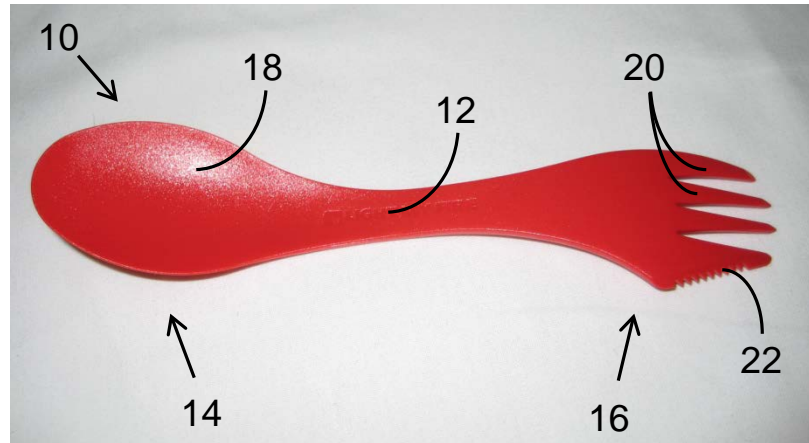

FIG. 1
- **Brief Description of the Figures** – FIG. 1 shows . . .
- **Figures** – FIG. 1, FIG. 2, FIG. 3, . . .
- “An exemplification of a multi-function feeding tool 10, including a handle 12 with a spoon end 14 and a fork end 16 is shown in FIG. 1. The spoon end 14 . . .”
- **Brief Description of the Figures:** “FIG. 1 is a perspective view of an exemplification of a multi-function feeding tool 10 with a spoon 12, a fork 14, and a knife 16 combined with a handle 18 in a single tool.” Drawings can include views from different angles, sectional views, schematics, flowcharts, graphs, and photographs (black and white - reproducible).